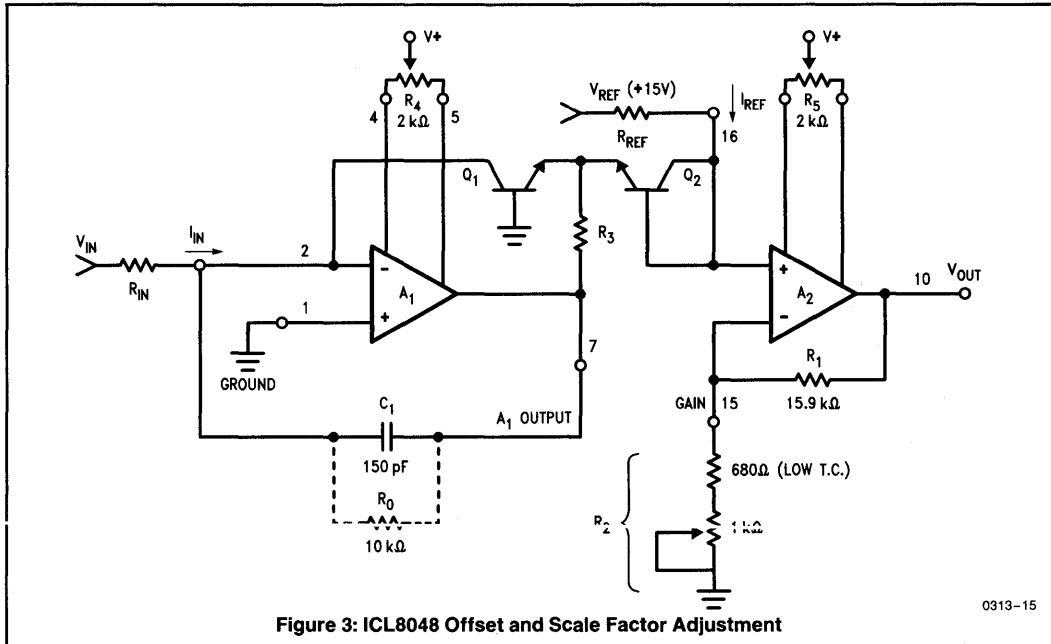
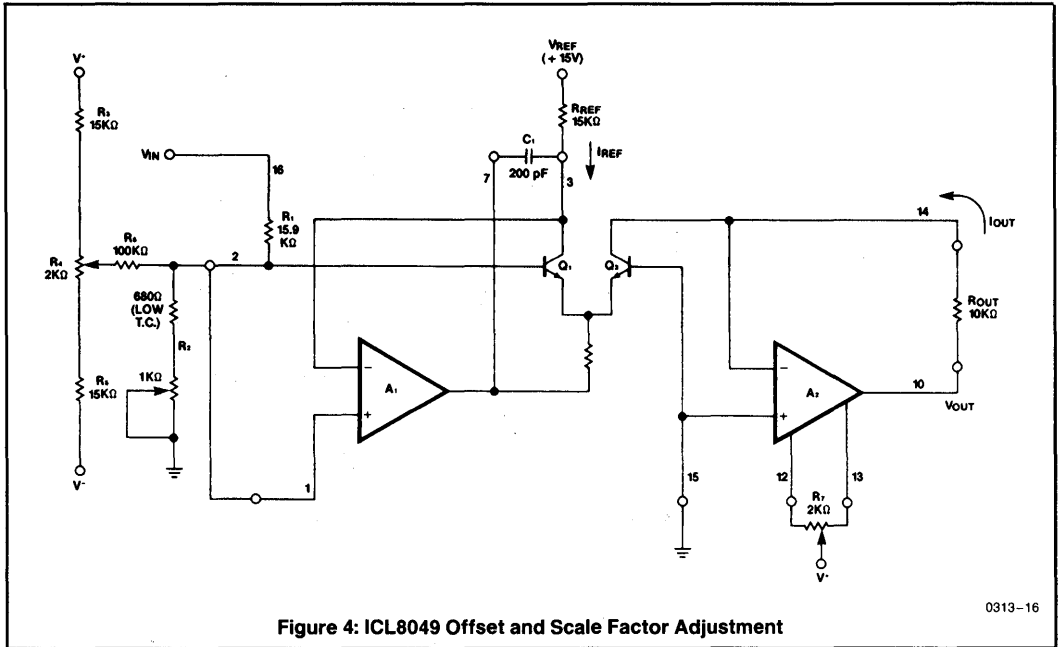
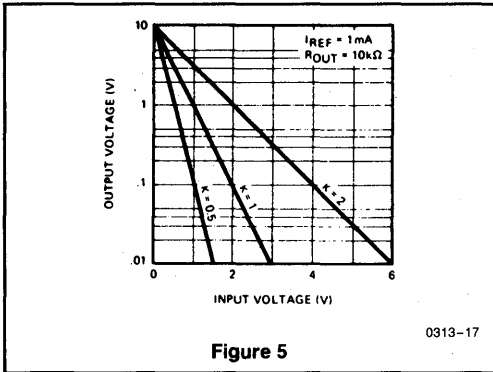
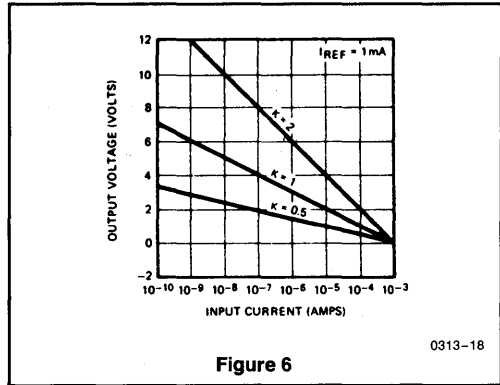

Figure 3: ICL8048 Offset and Scale Factor Adjustment
Figure 4: ICL8049 Offset and Scale Factor Adjustment
Figure 5
Figure 6
Referring to Figure 3, it is clear that the potential at the collector of Q_2 is equal to the ΔV_{BE} between Q_1 and Q_2 . The output voltage is ΔV_{BE} multiplied by the gain of A_2 :
A log amp, unlike an op-amp, cannot be offset adjusted by simply grounding the input. This is because the log of zero approaches minus infinity; reducing the input current to zero starves Q_1 of collector current and opens the feedback loop around A_1 . Instead, it is necessary to zero the offset voltage of A_1 and A_2 separately, and then to adjust the scale factor. Referring to Figure 3, this is done as follows:
The ICL8049 relies on the same logarithmic properties of the transistor as the ICL8048. The input voltage forces a specific ΔV_{BE} between Q_1 and Q_2 (Figure 4). This V_{BE} difference is converted into a difference of collector currents by the transistor pair. The equation governing the behavior of the transistor pair is derived from (2) on the previous page and is as follows:
As with the log amplifier, the antilog amplifier requires three adjustments. The first step is to null out the offset voltage of A_2 . This is accomplished by reverse biasing the base-emitter of Q_2 . A_2 then operates as a unity gain buffer with a grounded input. The second step forces $V_{IN} = 0$; the output is adjusted for $V_{OUT} = 10V$. This step essentially "anchors" one point on the transfer function. The third step applies a specific input and adjusts the output to the correct voltage. This sets the scale factor. Referring to Figure 4, the exact procedure for 1 decade/volt is as follows:
By adjusting R_2 (Figure 3 and Figure 4) the scale factor "K" in equation 9 and 10 can be varied. The effect of changing K is shown graphically in Figure 5 for the log amp, and Figure 6 for the antilog amp. The nominal value of R_2 required to give a specific value of K can be determined from equation 11. It should be remembered that R_1 has a $\pm 20\%$ tolerance in absolute value, so that allowance shall be made for adjusting the nominal value of R_2 by $\pm 20\%$.
Although the op-amps in both the ICL8048 and the ICL8049 are compensated for unity gain, some additional frequency compensation is required. This is because the log transistors in the feedback loop add to the loop gain. In the 8048, 150pF should be connected between Pins 2 and 7 (Figure 3). In the 8049, 200pF between Pins 3 and 7 is recommended (Figure 4).
In both the ICL8048 and the ICL8049 the input current reference pin (I_{REF}) is not a true virtual ground. For the ICL8048, a fraction of the output voltage is seen on Pin 16 (Figure 3). This does not constitute an appreciable error provided V_{REF} is much greater than this voltage. A 10V or 15V reference satisfies this condition. For the ICL8049, a fraction of the input voltage appears on Pin 3 (Figure 4), placing a similar restraint on the value of V_{REF}.